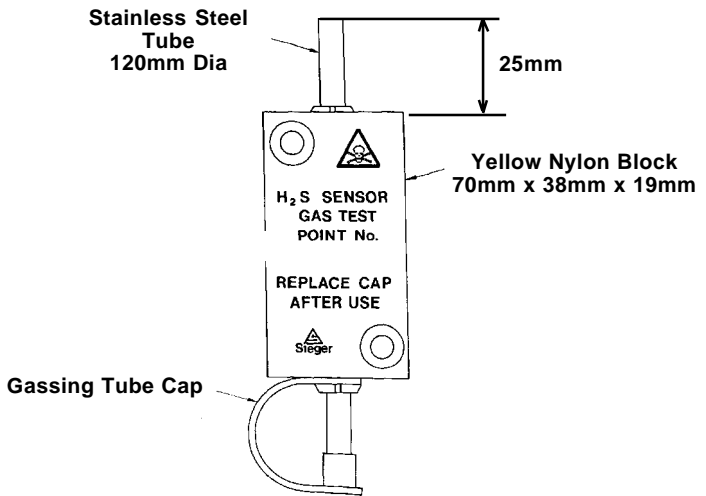

Figure 5 Gassing Point Assembly
- e. Gassing Point Assembly (Figure 5).